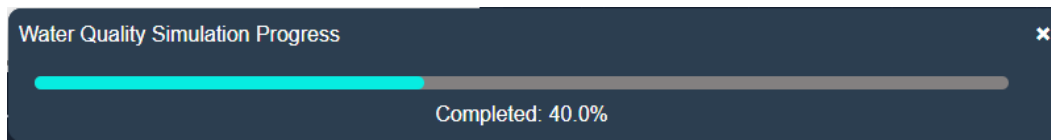

Figure 4.6. Run WAQ simulation
- After all above steps done, a WAQ simulation is ready to run. By hitting the button “**Run model**”, a new window appears and shows the process of simulation (Figure 4.6).